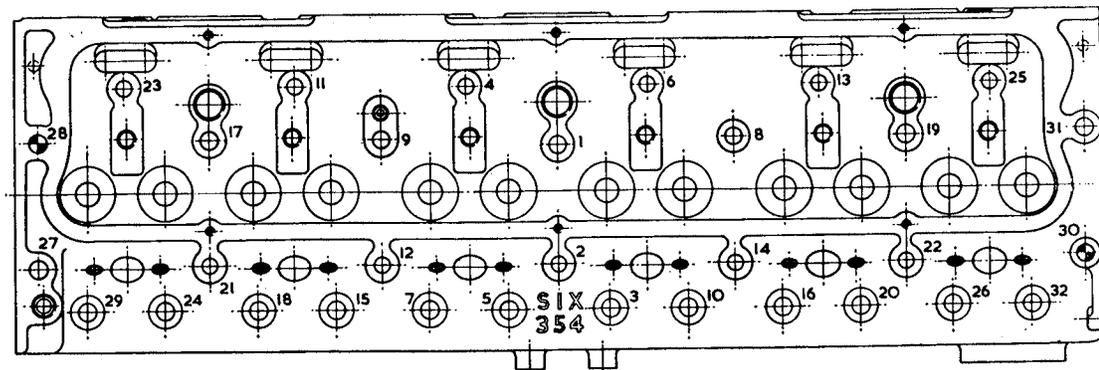

Fig. E.13. Cylinder Head Tightening Sequence.
2. Fit cylinder head to cylinder block. Lightly oil nuts and studs before fitting. Tighten cylinder head nuts progressively in three stages in the order as shown in Fig. E.13, until a torque of 60 lbf ft (8,30 kgf m) for $\frac{7}{8}$ in studs or 100 lbf ft (13,8 kgf m) for $\frac{1}{2}$ in studs is achieved. The final stage should be repeated.
2. After warming through, the engine should be shut down and the cylinder head nuts again tightened to the correct torque and in the correct sequence, as shown in Fig. E.13.